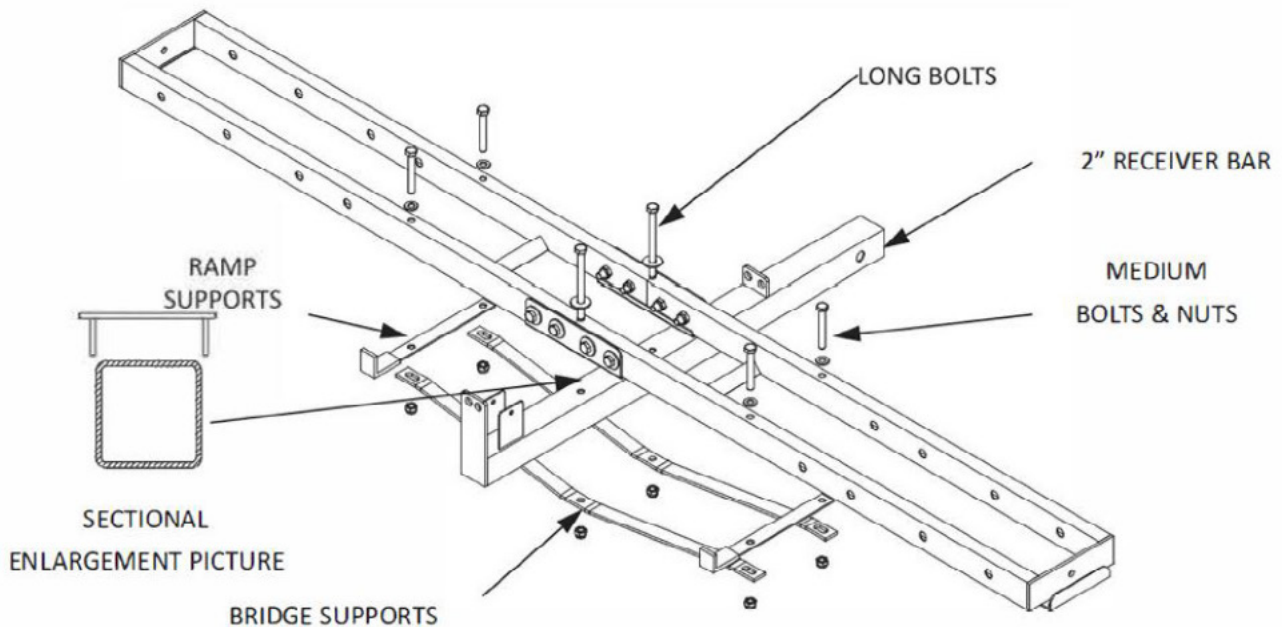

FIG. 2
Step2: Place 2" receiver bar inside support channel on underside of the L junction plate, aligning holes and using the long bolts. Attach bridge supports as shown using lock nuts; Attach medium bolts in two side of bridge supports respectively, getting through ramp support and the hole of two side for bridge support using locking nut. (See FIG.2)